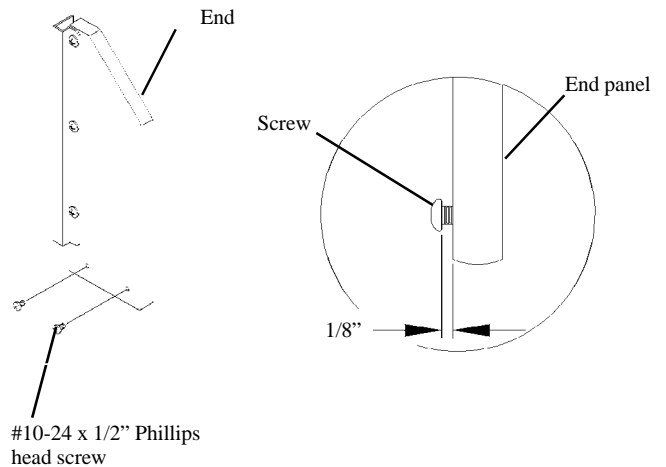

Figure 1
2. Install (2) #10-24 x 1/2" (13mm) Phillips head machine screws in each End Panel. Leave approximately 1/8" (3mm) of thread exposed. See **Figure 1**.